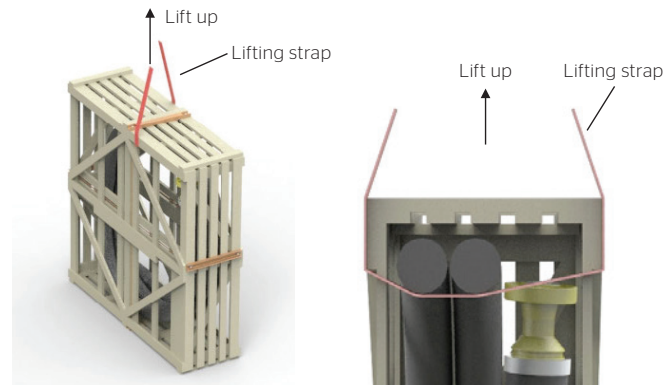

Fig. 10 Lifting by crane
- Using a crane: Lifting slings must be threaded through the middle of the crate, under the flexible line body and around the crate for lifting, see Fig. 10. Use of wire-ropes or chains is forbidden.